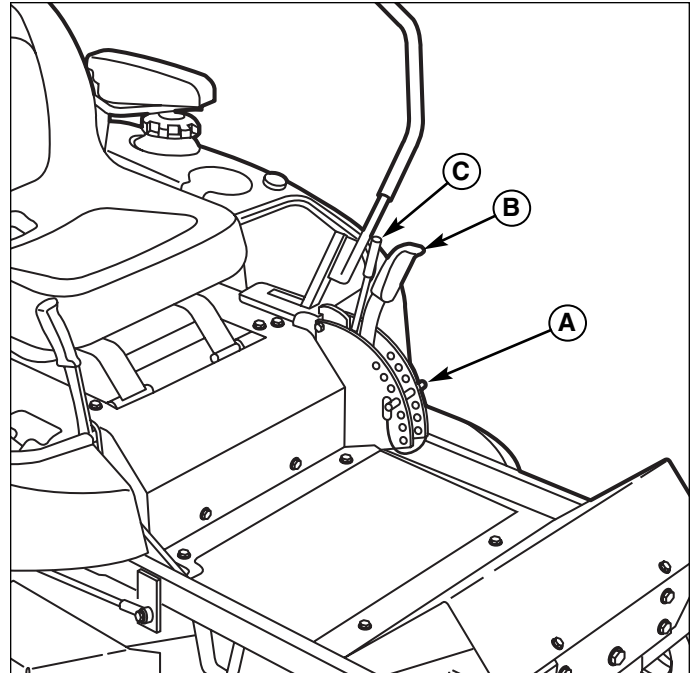

Figure 23. Cutting Height Adjustment
The cutting height adjustment pin (A, Figure 23) controls the mower cutting height. The cutting height is adjustable between 1-1/2" (3,8 cm) and 4-1/2" (11,4cm). Pulling the lever back fully locks the control in transport position.
1. Pull the adjustment lever (B, Figure 23) back fully until it locks in transport position.
2. Remove the cutting height adjustment pin (A) and insert it into the desired hole.
3. Pull back on the adjustment lever (B), squeeze the smaller transport release lever (C), and allow the lever to move forward until it is supported by the cutting height adjustment pin (A).